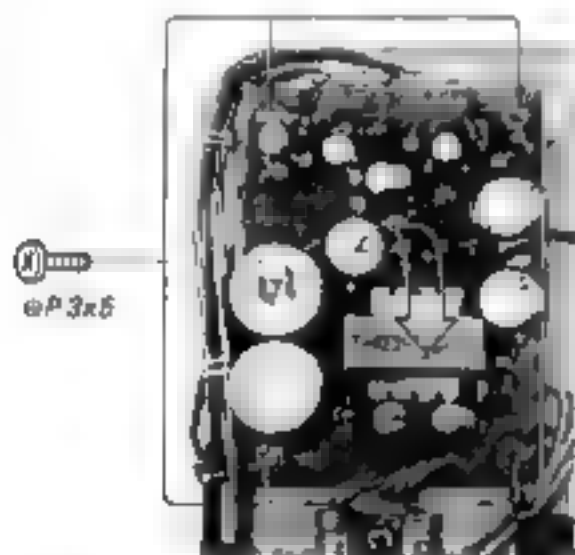

Fig. 2-14
- 1 Remove the four screws shown in Fig 2-14